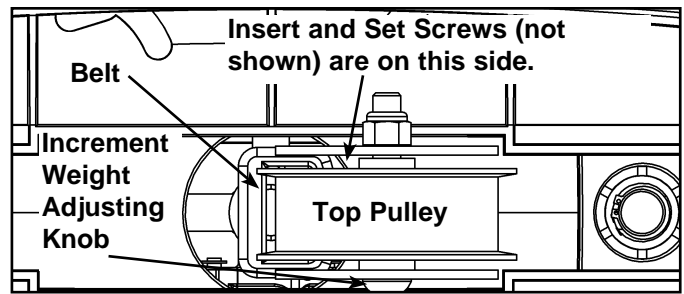

Figure 12 (top view from pulley down to belt clamp)
- B. Carefully lift top weight and verify that the position of the belt clamp (on the top weight) is aligned properly with the top pulley bracket (on the machine). See Figure 12.